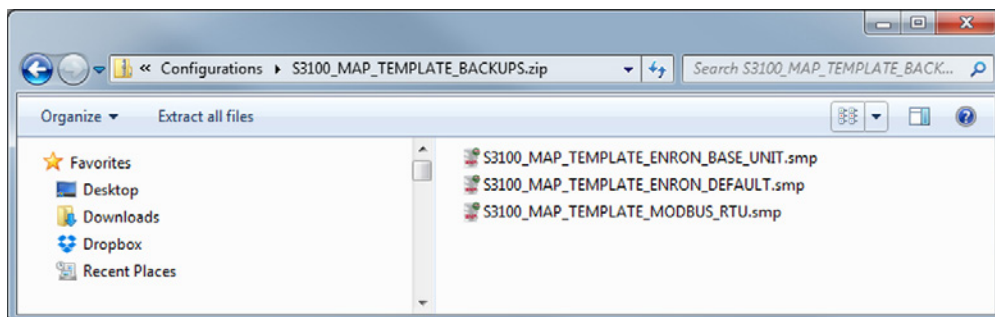

Figure 6.4—S3100_Map_Template_Backups directory
2. Double-click S3100_MAP_TEMPLATE_BACKUPS.zip to view the contents (Figure 6.4, page 34).